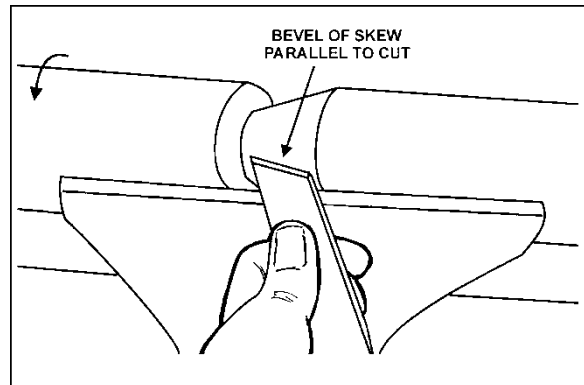

Figure 19
- Move the point of skew to the right half of the desired width of your cut, see Figure 19.